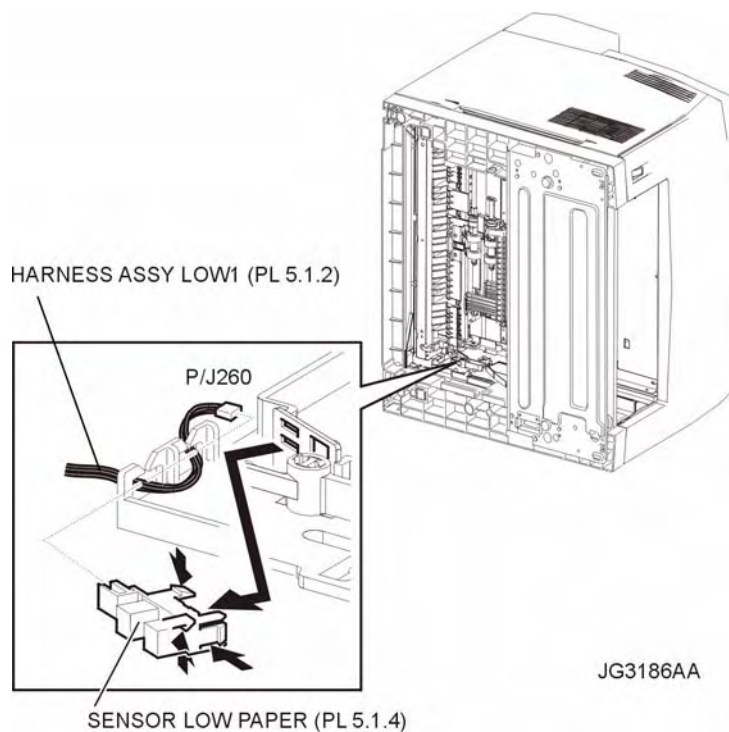

Figure 1. Low Paper Sensor
- 5) Disconnect the connector (P/J260) of the HARNESS ASSEMBLY LOW 1 (PL 5.1) from the SENSOR (Figure 1).
- 6) Release the hooks of the SENSOR, and remove it from the GUIDE TRAY RIGHT (PL 5.1) (Figure 1).
- 1) Install the SENSOR LOW PAPER to the GUIDE TRAY RIGHT (PL 5.1), and secure it with hooks (Figure 1).
- 2) Connect the connector (P/J260) of the HARNESS ASSEMBLY LOW 1 (PL 5.1) to the SENSOR (Figure 1).